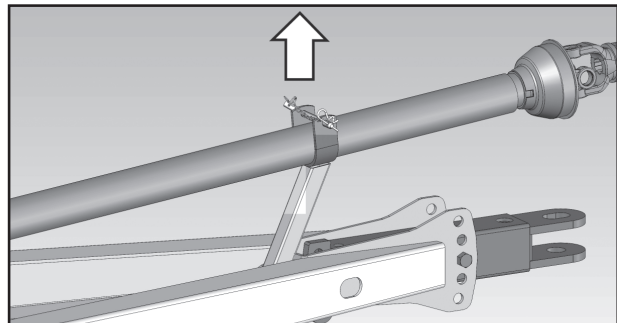

Figure 22- Released driveshaft
1) Release the end of the driveshaft from its support on the bagging machine towbar as shown in Figure 22.